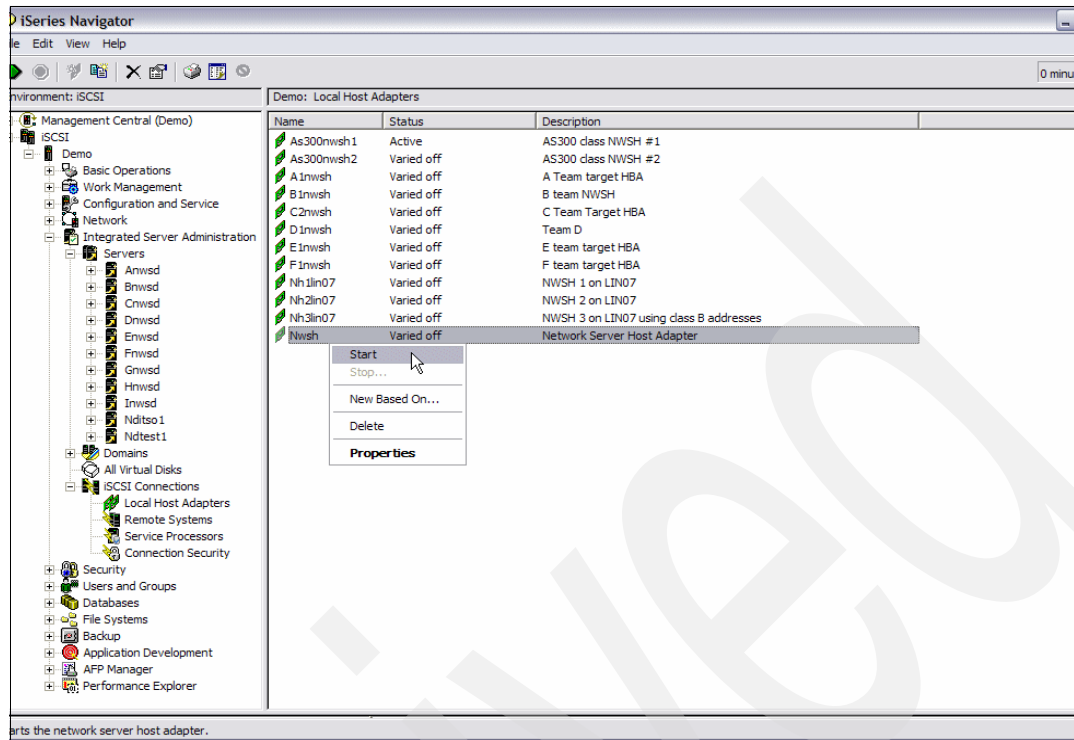

Figure 6-9 Start Local Host Adapter
- Click **Local Host Adapter** and right-click the **Network Server Host Adapter** at the right pane, which you want to start, and select **Start**. The status will flow from Varied off to Vary on Pending to Active (Figure 6-9 on page 161).